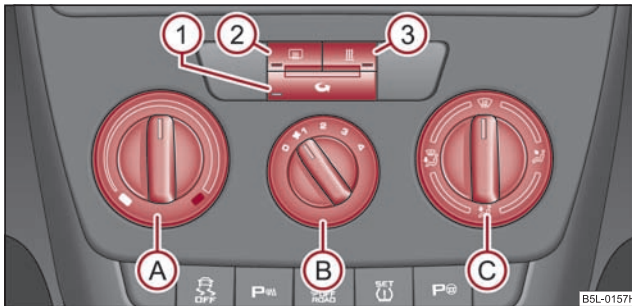

Fig. 101 Heating: Control elements
- Turn the control dial **A** ⇒ fig. 101 to the right in order to increase the temperature.
- Press the button  - the warning light lights up in the button ⇒ page 97, fig. 101.
The recirculated air mode is switched off automatically if the air distribution control  is in position  ⇒ page 97, fig. 101. You can also switch recirculated air mode on again from this setting by repeatedly pressing button .